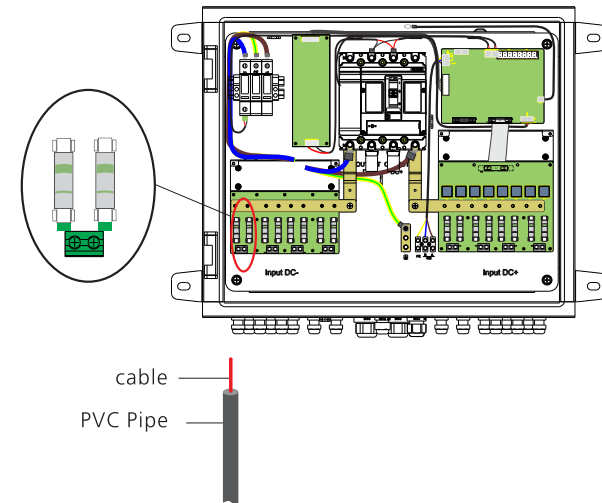

Figure 4-6 Cable connection demonstration
Step4 loosen the fixing screw of terminal, insert copper core of cable to terminal, then tighten screw as figure 4-6.